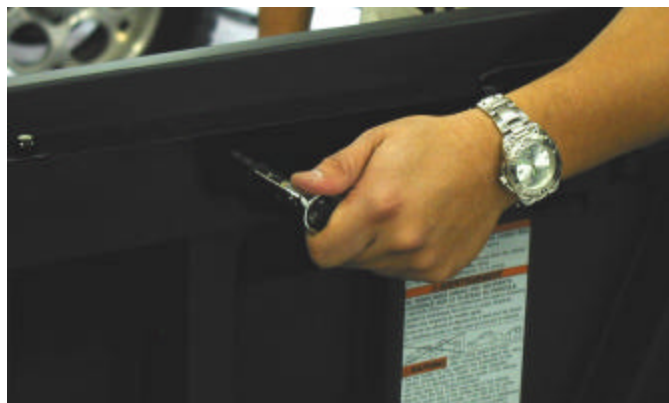

Figure 5.
2. Install the driver side and passenger side frames. **See figure 5.** Note: At this time you should only install the rear and center 6 mm x 45mm screws. The front screws will be installed later along with a small bracket.